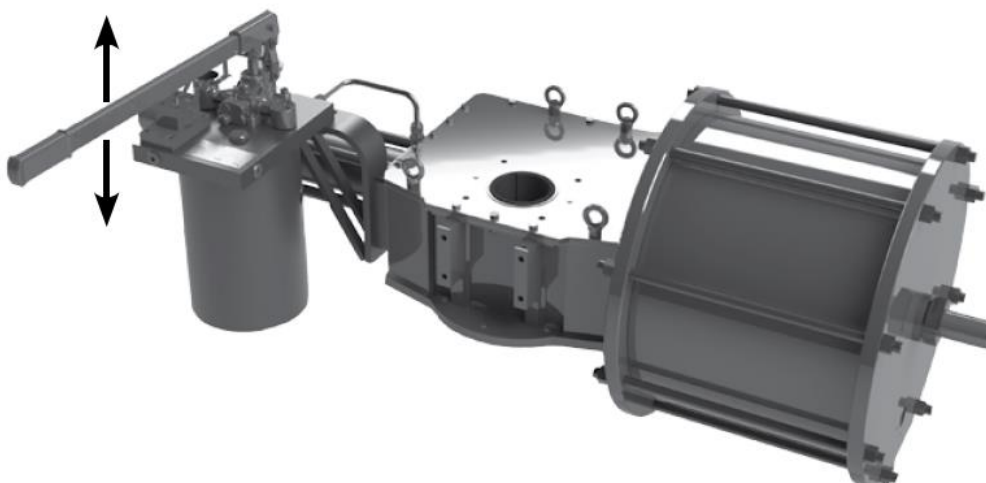

Figure 14 – Hydraulic Hand Pump Manual Override Installed on Double-Acting Actuator
3.1.3.1.4 To stroke the actuator in the close direction, switch the manual selector (4/2MV) to the CLOSE position indicated on its nameplate and operate the PMP manual hand pump, acting on the lever (Figure 14).